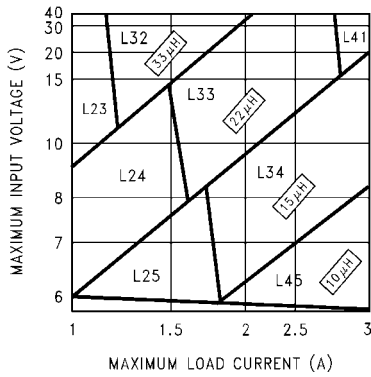
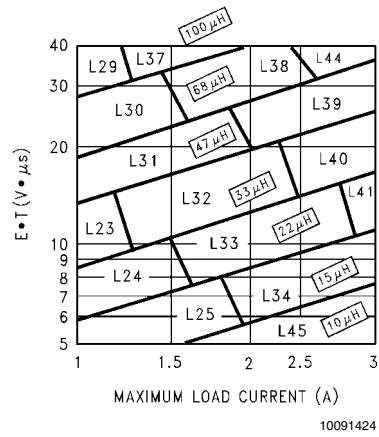

FIGURE 3. LM2676-3.3
FIGURE 6. LM2676-ADJ
Step 3: Determine the inductor required by using one of the four nomographs, *Figure 3* through *Figure 6*. Table 1 provides a specific manufacturer and part number for the inductor.
Step 5: Determine an input capacitor from Table 4 for fixed output voltage applications. Use Table 2 to find the specific capacitor type. For adjustable output circuits select a capacitor from Table 2 with a sufficient working voltage (WV) rating greater than $V_{in\ max}$, and an rms current rating greater than one-half the maximum load current (2 or more capacitors in parallel may be required).
Step 3: Use the nomograph for the 3.3V device, *Figure 3*. The intersection of the 16V horizontal line ($V_{in\ max}$) and the 2.5A vertical line ($I_{load\ max}$) indicates that L33, a 22 μ H inductor, is required.
Step 3: To use the nomograph for the adjustable device, *Figure 6*, requires a calculation of the inductor Volt \cdot microsecond constant ($E \cdot T$ expressed in V \cdot μ s) from the following formula:
Using *Figure 6*, the intersection of 27V \cdot μ s horizontally and the 2A vertical line ($I_{load\ max}$) indicates that L38, a 68 μ H inductor, should be used.
Important Note: When using the adjustable device in low voltage applications (less than 3V output), if the nomograph, Figure 6, selects an inductance of 22 μ H or less, Table 6 does not provide an output capacitor solution. With these conditions the number of output capacitors required for stable operation becomes impractical. It is recommended to use either a 33 μ H or 47 μ H inductor and the output capacitors from Table 6.